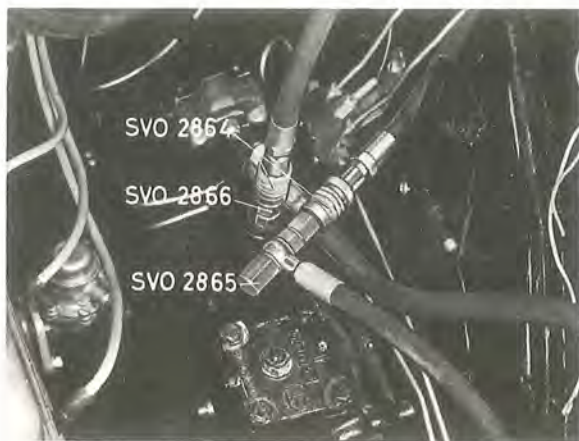

Fig. 6-63. Pressure gauge connected
1. Connect the test instrument SVO 2864 to the delivery line at the steering box, see Fig. 6-63. The inlet hose of the instrument is connected to the banjo nipple with tool SVO 2865 (Fig. 6-63) and the outlet hose to the steering box with tool SVO 2866. Check to make sure that the operating lever of the instrument is in the open position (to the left).